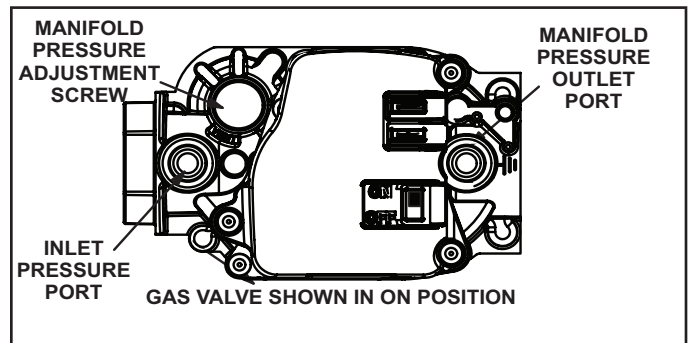

FIGURE 28
Gas Valve Operation (FIGURE 28)
- 6 - Move switch on gas valve to OFF. Do not force. See FIGURE 28.
- 8 - Move switch on gas valve to ON. Do not force. See FIGURE 28.